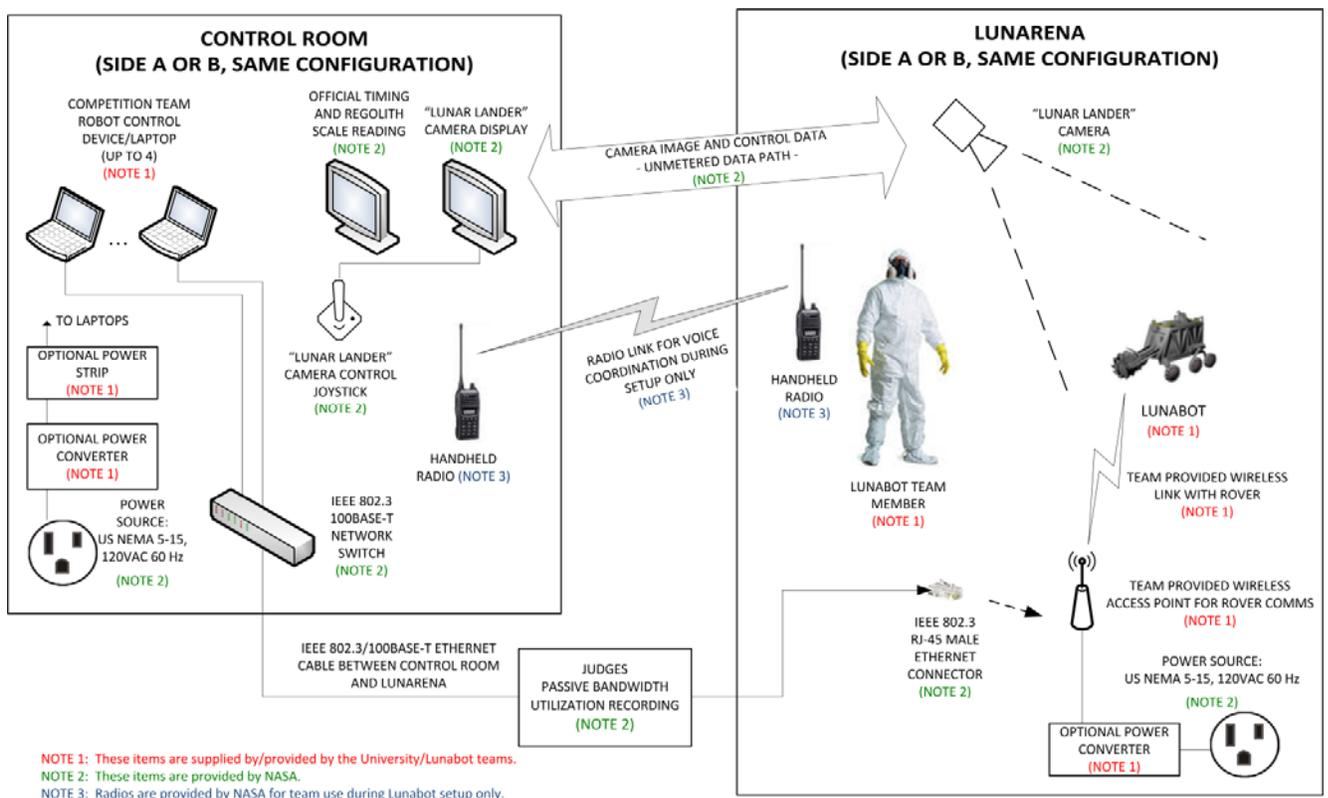

Figure 1
1. Each team is required to command and monitor their Lunabot over the NASA-provided network infrastructure. Figure 1 shows